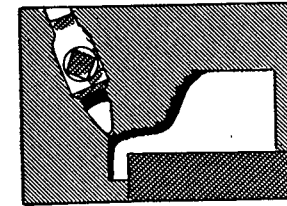

FIG. 500
8. Take a series of horizontal cuts until the excess material has been removed and the job appears as in Fig. 500.